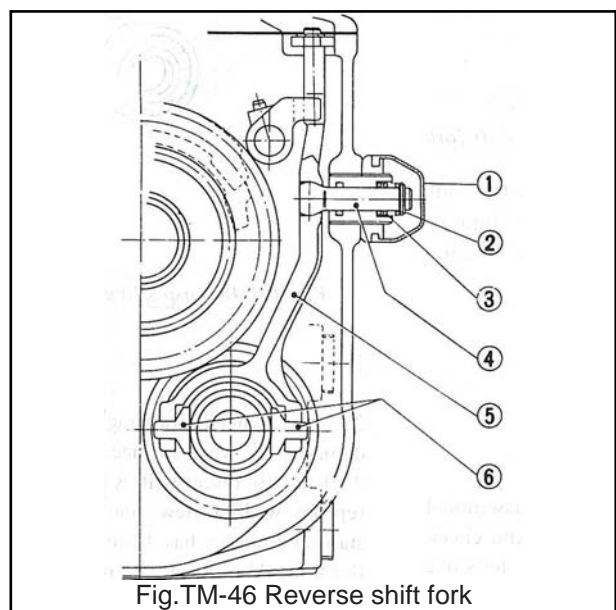

Fig.TM-46 Reverse shift fork
3.Drive out reverse shift fork shaft on the inner side of transmission case, and then take out reverse shift fork together with gear shift shoes. See Figure TM-46.